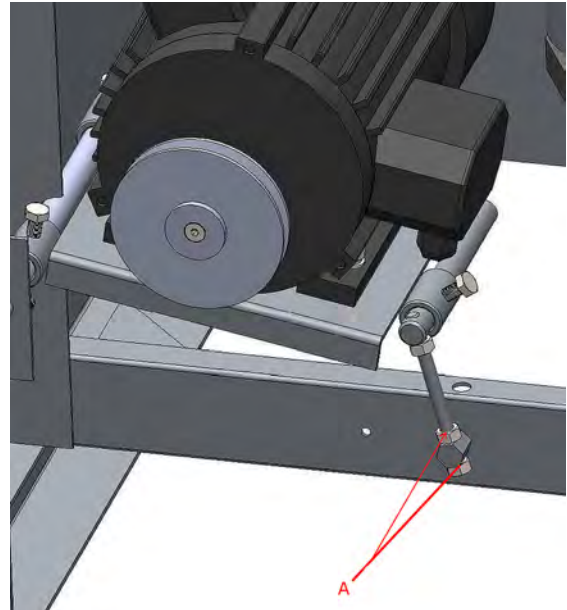

Fig. 25: Tension the drive belt
Step 4: Tension the drive belt by loosening or tightening the two nuts A (Fig.25).